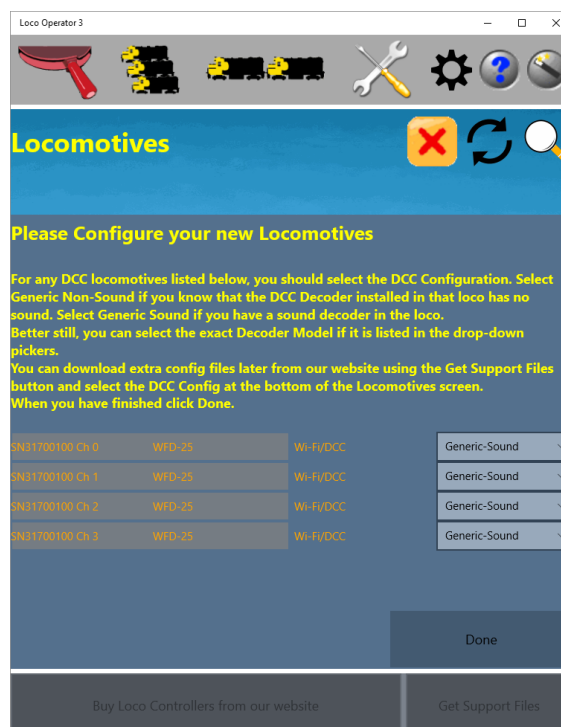

Figure 6 New Locomotive Configuration Screen
- (4) Your default of four locomotive channels should now appear as entries in a list – channel 0 through channel 3, as in Figure 6. Since they are effectively DCC locomotives, there is a drop-down selector on each line allowing you to select the DCC Decoder that you have installed in the locomotives that will be in each of these four positions in the roster. The default is Generic-Sound, but some other options are built in which you can choose. When you have made your selection click Done.